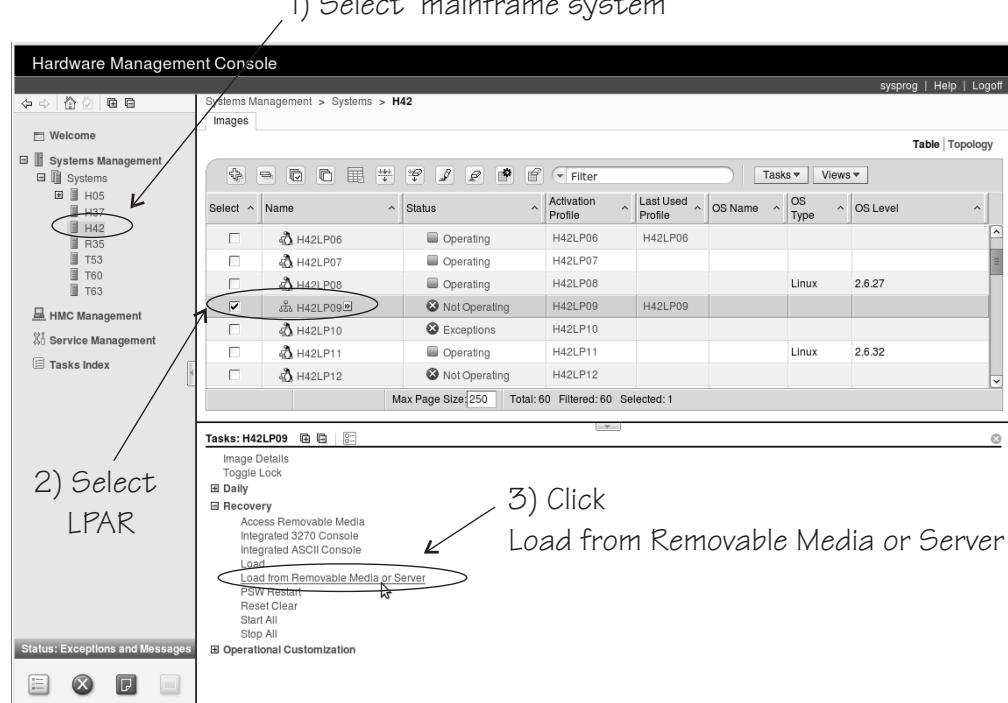

Figure 67. Load from Removable Media or Server task on the HMC
3. In the **Tasks** area, expand **Recovery** and click **Load from Removable Media or Server** (see Figure 67 on page 388).